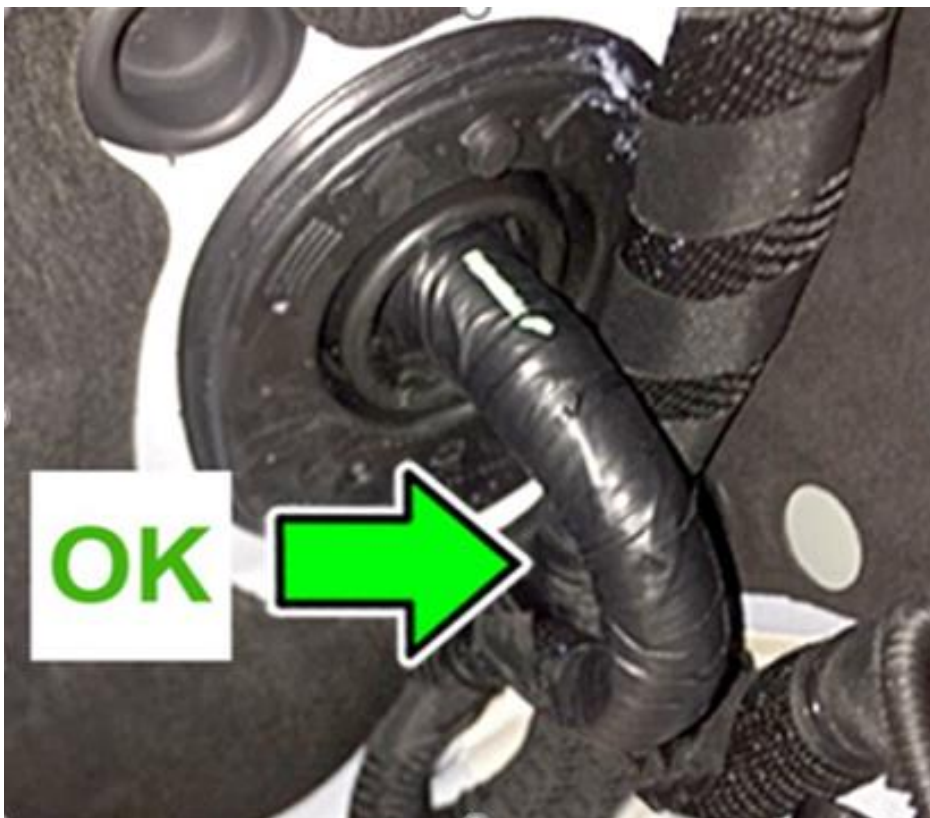

Figure 19 – Wiring Position OK
1. Check the wiring from the left-hand bulkhead to be sure it is positioned as shown in the figure, i.e. facing downwards without loops (Figure 19).
2. If the wiring is facing downwards, as shown (Figure 19), **the position is conforming: vehicle OK.**